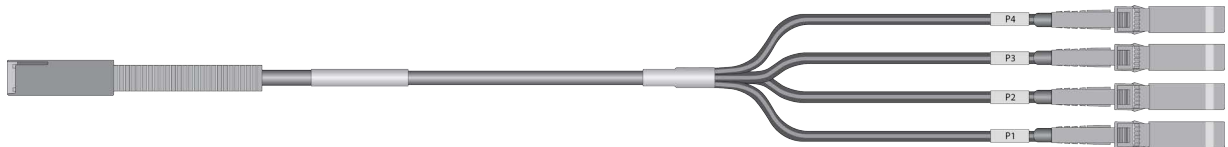

Figure 16. Copper Breakout Cable
- ❑ Each port can be converted from one 40Gbps port into four 10Gbps ports with breakout cables of 1 and 3 meters in length. Refer to Figure 16.